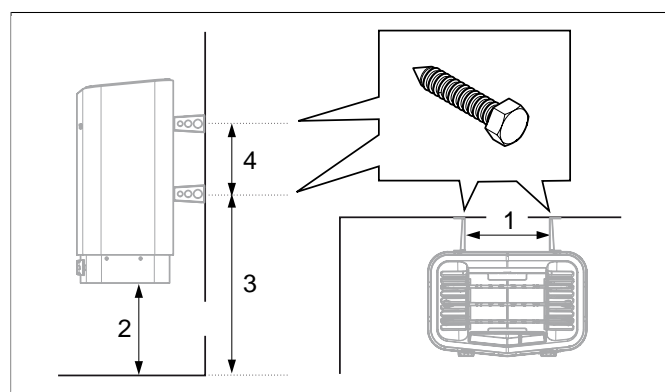

Figure 8: Dimensioning
7. Position the bracket screws according to the specified dimensioning see **Figure 8**, Page 4.